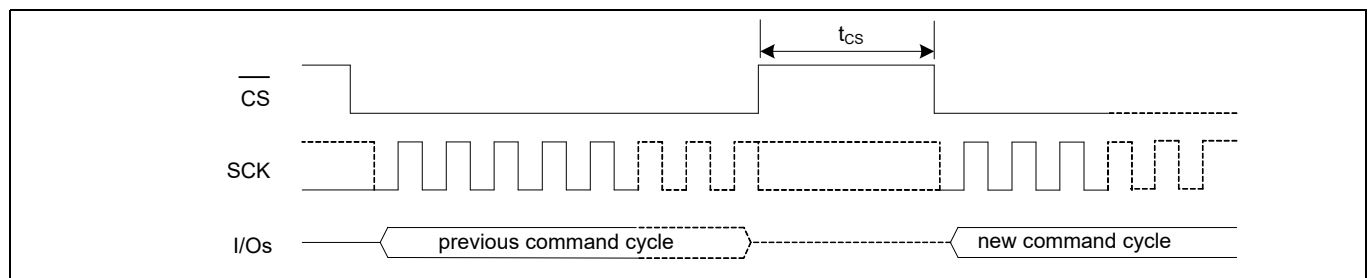

Figure 116 Chip deselect ($\overline{CS}$ HIGH) - t_{cs} timing
22. t_{CS} is the minimum chip deselect ($\overline{\text{CS}}$ HIGH) time before the new command cycle starts in a specific SPI mode (SPI, DPI or QPI). This parameter ensures that previous operation is successfully completed before the host starts a new command cycle. Refer to **Figure 116**.
22. t_{CS} is the minimum chip deselect (CS HIGH) time before the new command cycle starts in a specific SPI mode (SPI, DPI or QPI). This parameter ensures that previous operation is successfully completed before the host starts a new command cycle. Refer to **Figure 116**.
27. t_{CS} is the minimum chip deselect (CS HIGH) time before the new command cycle starts in a specific SPI mode (SPI or QPI). This parameter ensures that previous operation is successfully completed before the host starts a new command cycle. Refer to **Figure 116**.